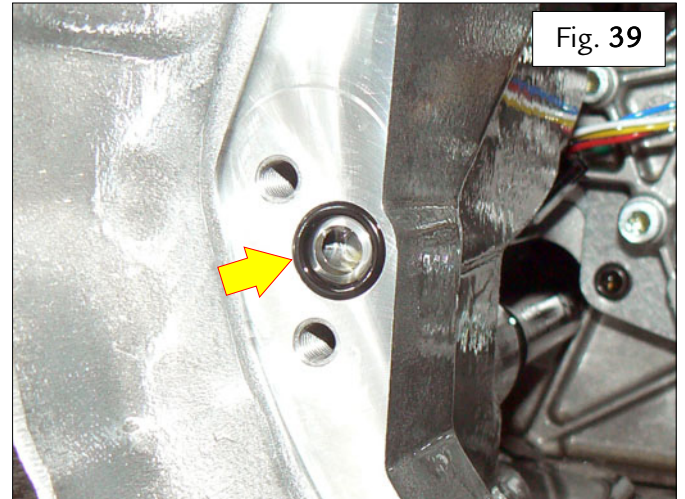

Fig. 39
- Fit a new O-ring in the relative seat on the differential housing – Fig. 39.